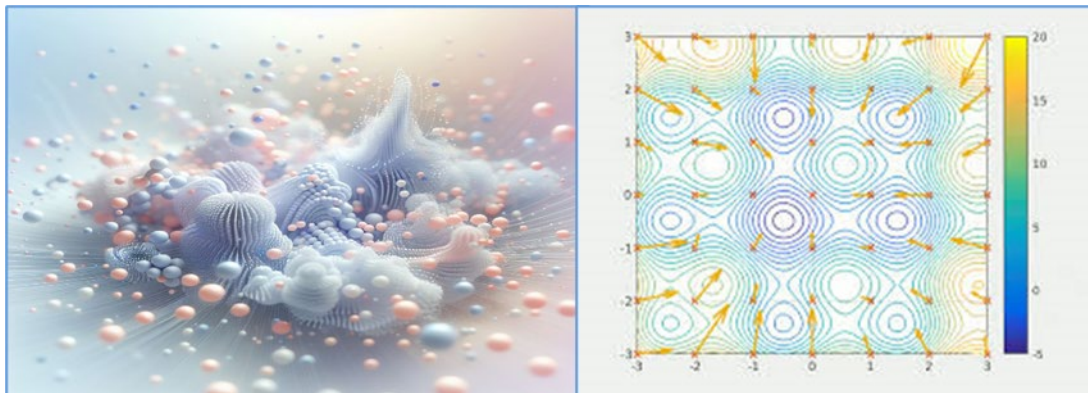

Figure 6. Particle Swarm Optimization is suited for large scale problems and avoids local minima traps. *Graphics credits: Copilot and Wikipedia*
- **Corana** Simulated Annealing (SA)
- Inspired by the social behavior of birds flocking or fish schooling, where a population of candidate solutions, called particles, move around in the search space. The movement is directed by the best-known positions of itself and other particles. See Figure 6.